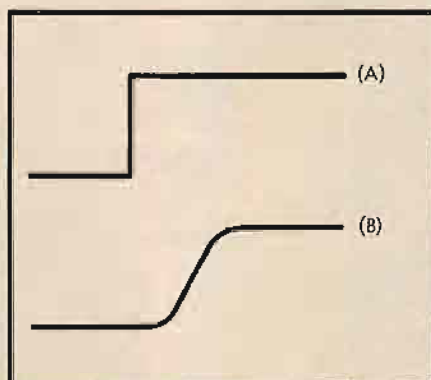
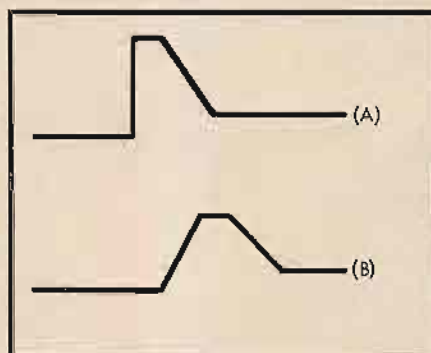
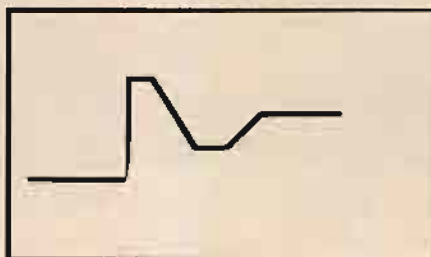

Fig. 1. The input square wave (A) is delayed and rounded off (B) before it reaches the output.
Fig. 2. As the initial signal goes through the amplifier and is fed back, the first passage results in an input (A) with a corresponding output (B).
Fig. 3. When the signal shown in (B) of Fig. 2 gets through the feedback path (second time around) the total input has the form shown.
"I recently investigated this low-frequency noise on a friend's recorder, and managed to cure it in the following manner: Most oscillators used for erase and bias have grid-leak bias on the grid. See the accompanying diagram of an oscillator (Fig. 1). The signal on the grid is large, and the grid is driven positive. The capacitor *C* charges, and the grid is biased negatively. If the grid current in this particular oscillator is too large, it may cause the grid to be driven so far negative as to
We must now consider what happens when we apply a large signal to a feedback amplifier. Since we are engineers we shall use a square-wave input to begin with but the implications of other waveforms will be examined later. We shall first of all disconnect the feedback so that we get from the input shown in (A) of Fig. 1 the output shown in (B).
Now let us connect the feedback loop and let us assume that it has a completely flat frequency response. What we see in (B) is returned to the input, so that for this first trip the input will become something like the shape shown in (A) of Fig. 2 except that I have not
rounded off the corners. If we were to have this waveform we should obtain the output shown in (B) of Fig. 2. But if this were the output, the input would be the combination of this (multiplied by the feedback coefficient (β) and the input of Fig. 1 and would look something like the waveform shown in Fig. 3.